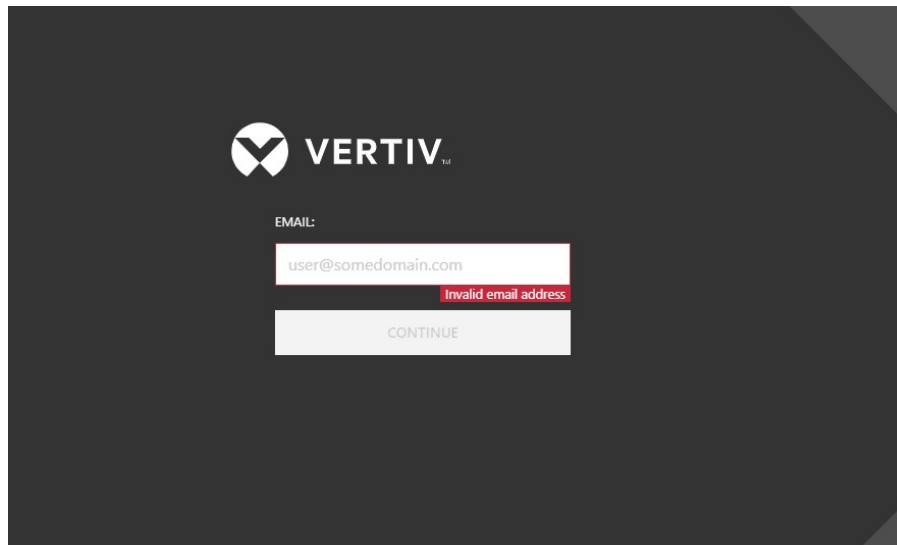

Figure 1-4 Setting the email address
2. If the activation code is correct, the activation operation is completed, and the system automatically redirects to the system administrator's email address page, as shown in Figure 1-4.